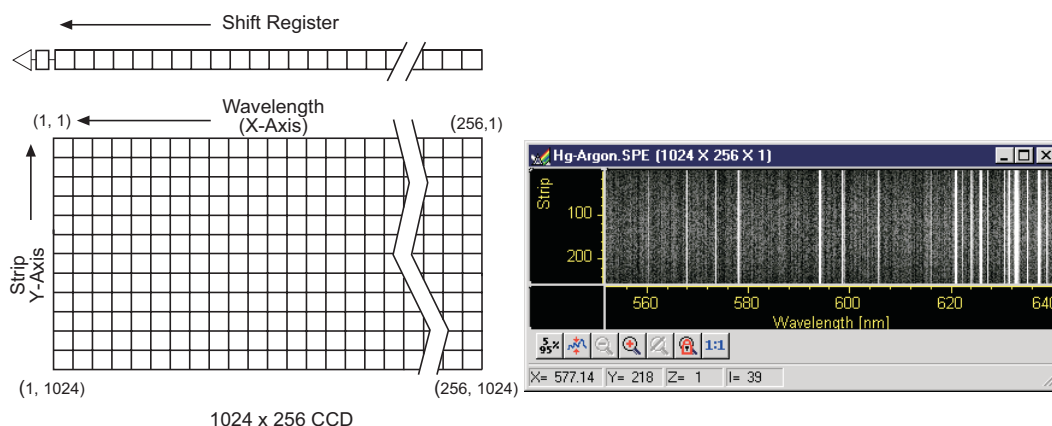

Figure 130. Assumed CCD Array Orientation
2. References to X and Y axes assume that the shift register is parallel to the X-axis and that the data is shifted to the shift register in the Y direction. See Figure 130 below.